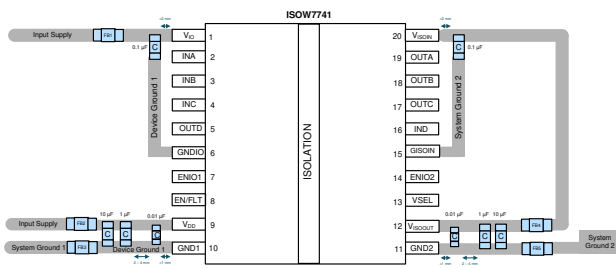

Figure 3. Example PCB ISOW7741 Layout
Important: place all these capacitors on the same PCB layer as the ISOW7741 device. Figure 3 shows an example PCB layout with the suggested decoupling capacitor placements.
Ferrite beads (FB) are vital in minimizing radiated emissions due to common-mode current loops. FBs can be inserted between the ISOW7741 DC/DC converter and rest of the system, as Figure 3 shows, thereby breaking the path of larger common-mode current loops, and limiting formation of only shorter current loops. Such FBs in the path offer high attenuation to select frequencies thereby blocking the switching noise. Choose these FBs such that they offer the highest impedance (> 1 k Ω) at the switching frequency and its harmonic frequencies.